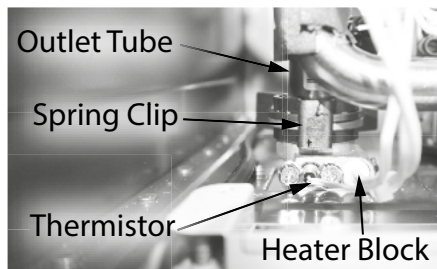

Figure 4 - Outlet tube location
- 17** Locate the spring clip (size 30) at the base of the outlet tube. See Figure 4. Remove and set this clip aside in a safe place for reinstallation.
- 19** Locate the two (2) screws securing the thermistor and heating block to the outlet assembly. Use a Phillips screwdriver to remove the screws. Place screws aside in a safe place for reinstallation. See Figure 4.